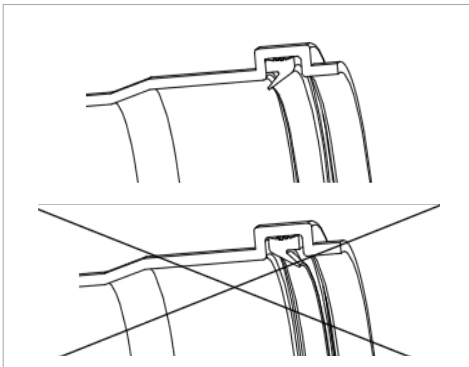

Fig 42. Seal Direction
- Confirm seal is installed in the appropriate direction (Fig 42).